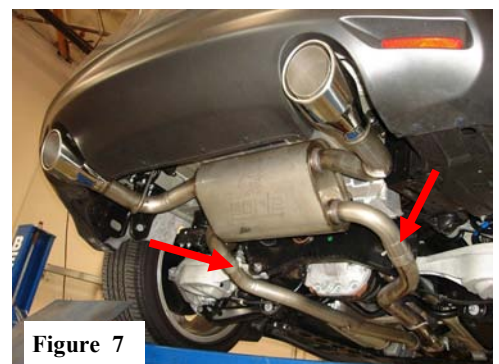

Figure 7
4. Place a clamp over Right and Left Rear Pipe ends and install Muffler Assembly using (2) factory hangar rubber isolators. (See Fig 7)